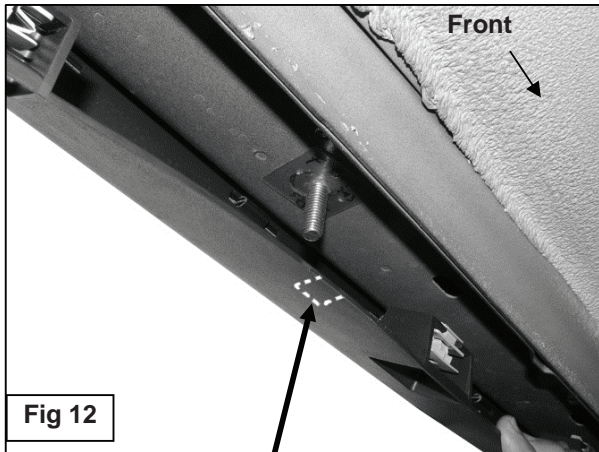

Fig 12
6. Select the driver side center Bracket, (Fig. 11A). Insert the Center Bracket into the approximate position, (Fig. 11B). Mark the Bracket location on the bottom edge of the plastic cover, (Fig. 12). Cut a small slot in the bottom edge of the cover to clear the Bracket. Bolt the Bracket to the Bolt Plate with (1) 10mm Flat Washer, (1) M10 Lock Washer and (1) M10 Hex Nut, (Fig. 13). Do not tighten hardware at this time.